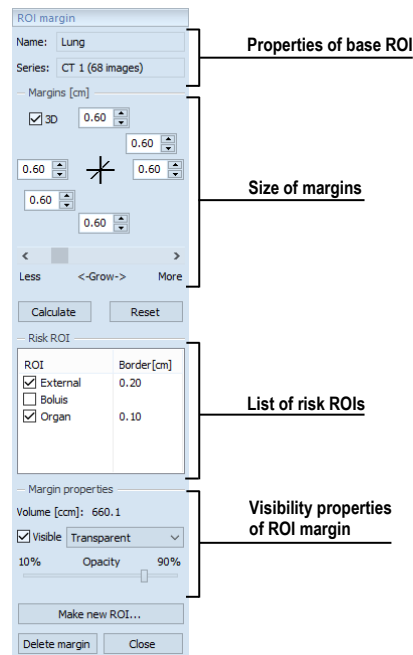

Figure 263 – ROI margin tool
3. The **ROI margin** tool is then automatically displayed as a new tab in the tools panel where you can define parameters for the ROI margin (see Figure 263).